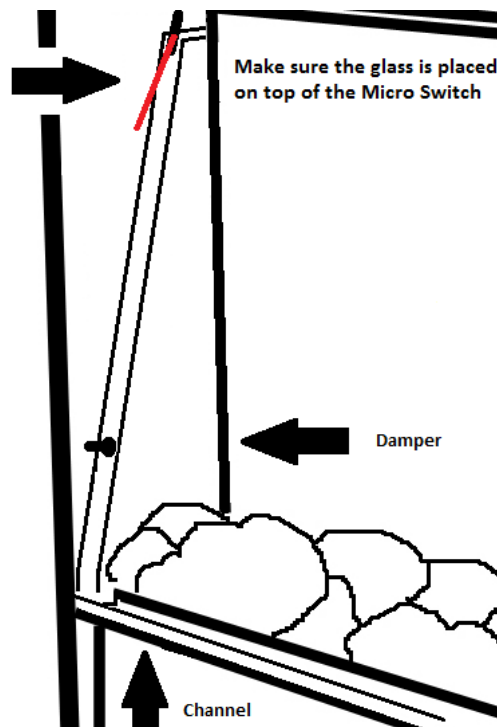

Fig.4
**Fitting the Glass:** Whilst holding at the bottom of the glass, place the top edge through the fire opening up both sides of the interior making sure you start after the dampers and lift over the micro switch arm at the top. **IMPORTANT Fig.4: The glass must be placed on top of the metal arm and NOT under!** Allow the bottom edge of the glass to sit into the channel in front of the fuel bed. To remove the glass, in the open fully tilted position hold from the very top, pull out of the channel and carefully remove through the opening, bottom edge first.